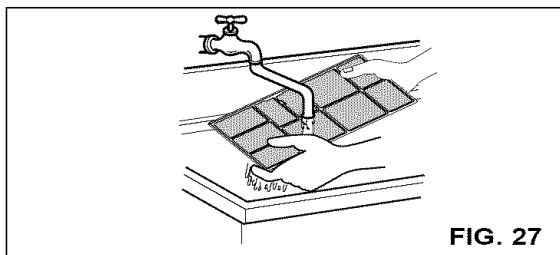

FIG. 27
- Wash the Air Filter under the faucet with warm water. Be sure to shake off all the water before replacing the filter. (FIG.27)